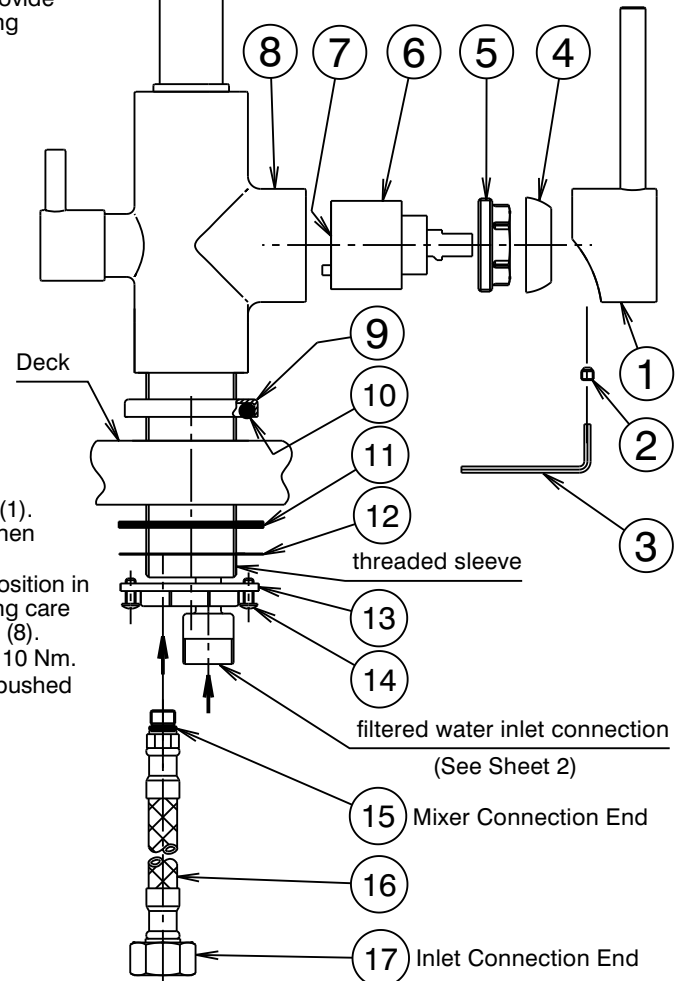

Fig.1
- 1) Ensure seal (10) is installed into groove in base flange (9) of mixer body (8).
- 2) *Flexible Tail Mixer Connections:* Apply suitable lubricant to 'O' rings (15). Fit flexible tail (16) (with red indication) into hole marked as 'H'. Hand tighten the tail, ensuring the 'O' ring (15) has fully entered the sealing bore to provide a watertight joint. Fit other flexible tail (with blue indication) into remaining hole (marked 'C') in a similar manner.
- 3) Insert the inlet connection end (17) of each flexible tail (16) through the hole in the deck. Insert threaded sleeve of mixer body (8) into deck hole. Fit rubber washer (11), followed by metal washer (12), over the threaded sleeve of the body (8) as shown (Fig. 1). Screw the nut (13) onto threaded sleeve until it contacts metal washer (12) and the rubber washer (11) has contacted the underside of the deck. Tighten two screws (14) equally until mixer assembly is clamped firmly to the deck.
- 4) *Flexible Tail Inlet Connections:* Connect the flexible tails (16) to the hot and cold isolating stop taps, hand tighten the connecting nut (17) until rubber cone contacts the sealing face of the connection end, then tighten a further one turn to provide a watertight joint.